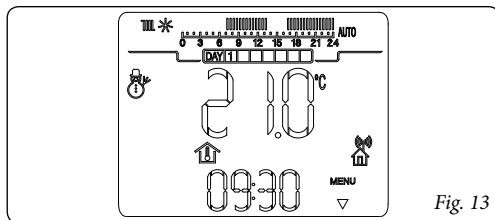

Fig. 13
- **Winter mode (⌚).** In winter mode the boiler is enabled for room central heating. In winter mode the CRONO 7 can function in automatic or manual mode. For the description of functioning see chapter 5. The display shows the day and current time, the room temperature and the hour bar with the daily programming of the central heating timer along with the relative symbols (fig. 13).